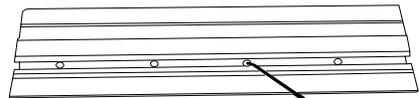

**Fig. 12**
4. Repeat steps 2 and 3 to assemble the 3rd and 4th track section (Fig 12).